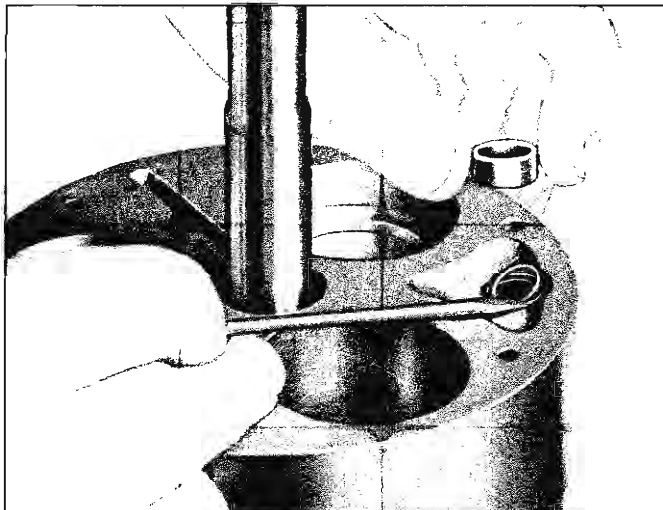

Fig. 48—Installing Discharge Crossover Tube Front "O" Ring and Spacer
3. Install the discharge crossover tube front "O" ring and spacer (fig. 48).